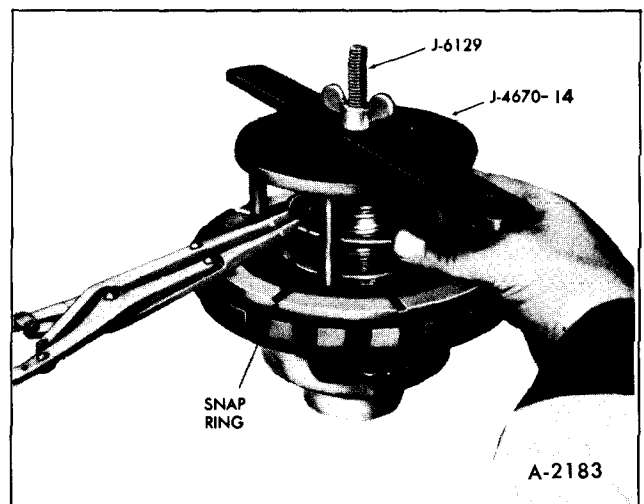

Figure 66—Removing Intermediate Clutch Retaining Snap Ring
3. Using Clutch Spring Compressor, J-4670, and Rear Clutch Spring Compressor, J-6129, Figure 66, compress spring retainer and remove snap ring with Snap Ring Pliers, J-8059 or J-5586.
6. Using Clutch Spring Compressor, J-4670, and Rear Clutch Spring Compressor, J-6129, Figure 66, compress spring retainer, being careful that retainer does not get caught in snap ring groove, and install snap ring with Snap Ring Pliers. J-8059 or J-5586. Remove tools.